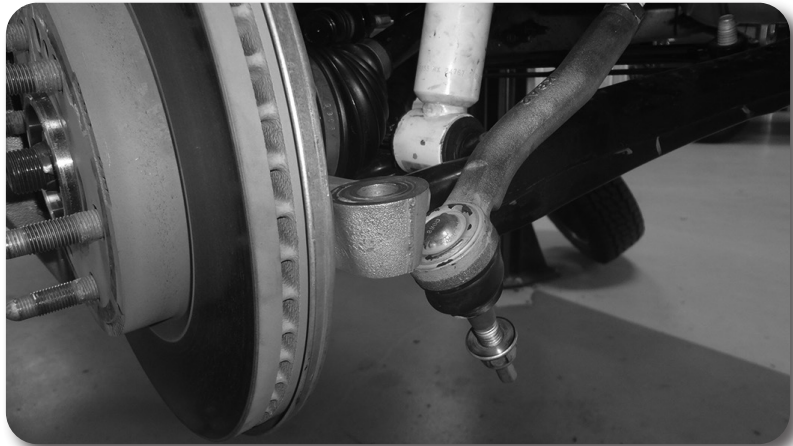

Figure 4
7. Remove the tie rod end nut. Disconnect the tie rod from the knuckle Fig. 4. **Aluminum Knuckle:** Avoid striking the knuckle, typically the taper unseats more easily and gently hitting the end of the tie rod end will unseat the taper. A pickle fork can also be used. Save the mounting nut.